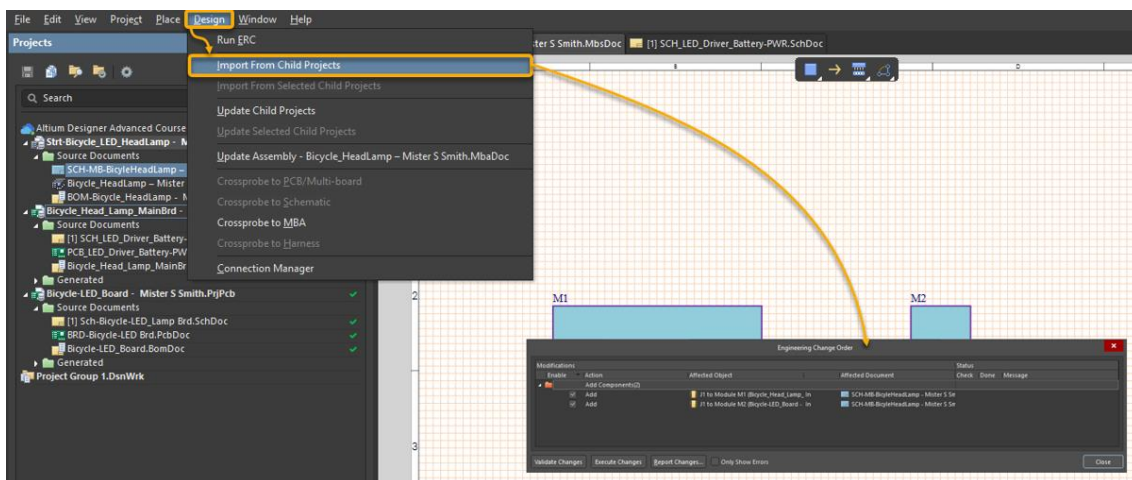

Figure 12. ECO Completed
- a) Select from **Design » Import from Child Projects** to import data from the child PCB projects associated to the modules M1 and M2 in the Multi-Board schematic, Figure 12.